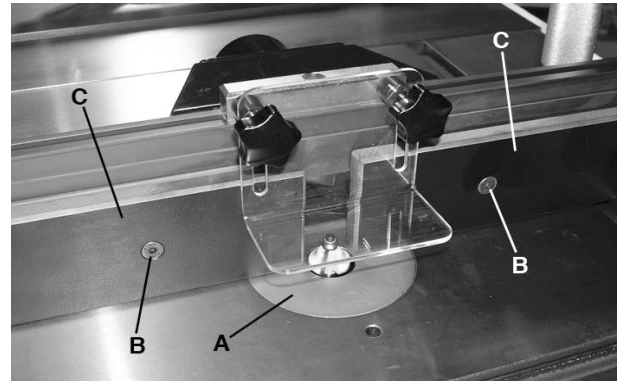

FIGURE 13
- 1) Two table inserts are included with this router table (1" and 2-3/8" opening). Install a table insert (A) Fig.13 into the router table opening, choose the one which leaves the least amount of space around the router bit. Make sure the chosen table insert does not interfere with the router bit rotation.
- 3) Loosen fence board fixing screws (B) Fig.13, position the fence boards (C) so that they leave the least amount of space on both sides of the router bit. Make sure the position of the fence boards do not interfere with the router bit rotation. Retighten fence board fixing screws.